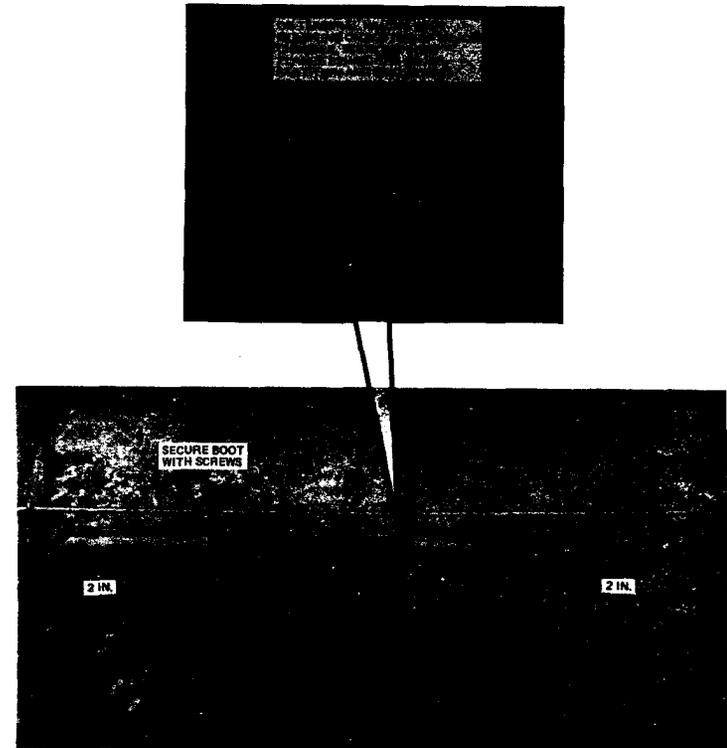

Fig. 36—Installed Pull-Out Kit
5.04 Slide the boots up to the terminal panel and secure with the two screws provided for each boot (Fig. 36).
Note: On terminal panels which have the boot mounting on the bottom of the splice chamber, omit the screws and slide the boot flange behind the splice partition as shown in Fig. 36.